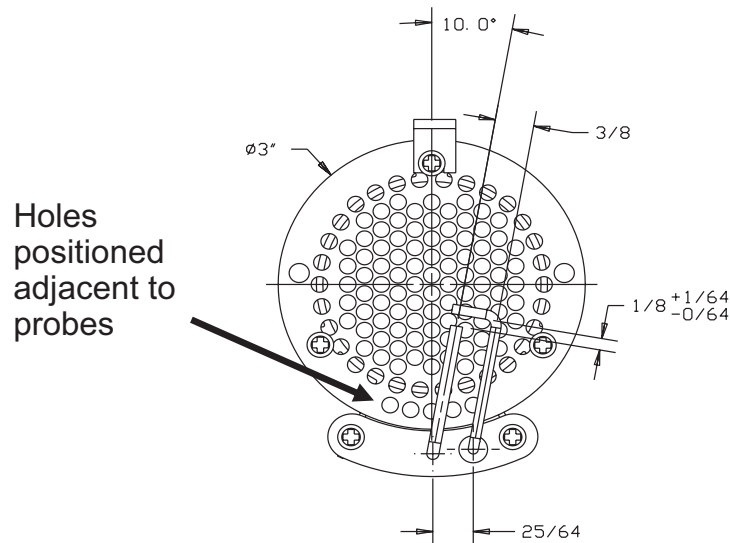

Figure 5. Flame Plate Alignment
- d. Secure flame plate on top of burner head to burner tube using existing three screws. Ensure that five holes on outer ring are aligned properly as shown in Figure 5.